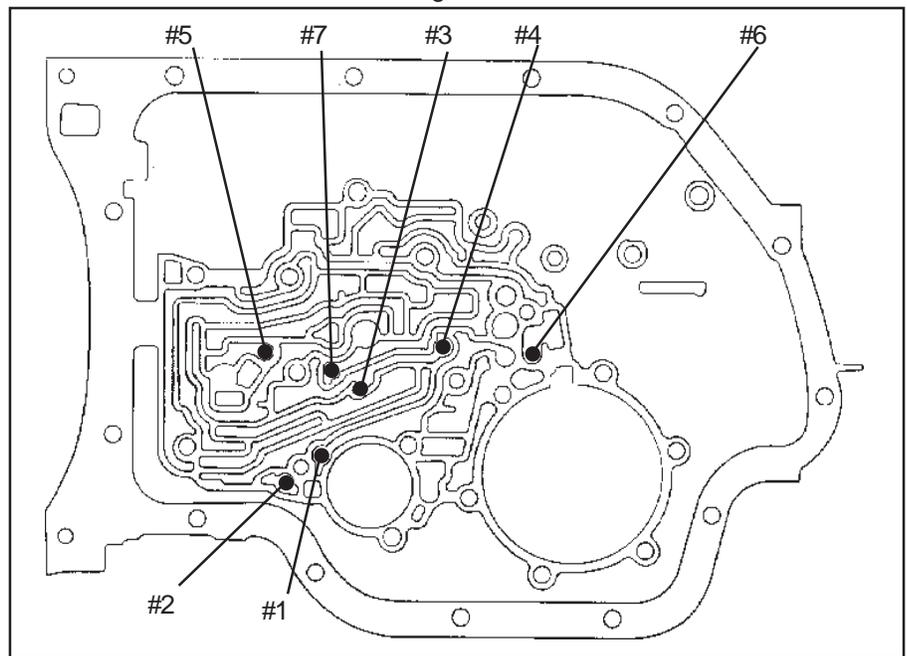

Figure 10
STEP 9. Check Ball Placement: Install check balls in the locations shown in **Figure 10** as follows: